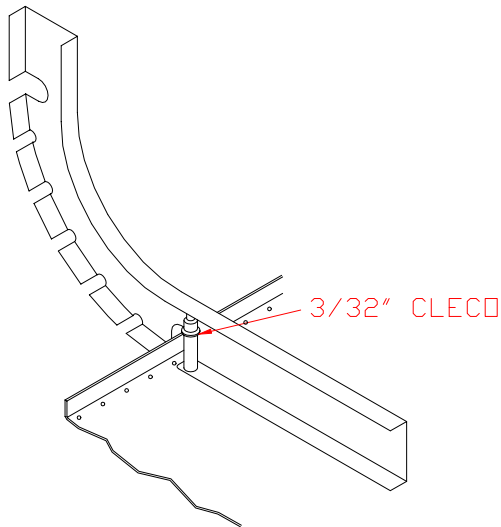

Figure 9.1.6
9) All the flanges face forward as in Figure 9.1.6. (Except Bulkhead location A. The flanges will face rearward).
10) Take a bulkhead for location “E” and cleco it onto the Skin at the #40 hole you drilled into the table. Use the #40 hole on the flange of the bulkhead to locate. Figure 9.1.6.